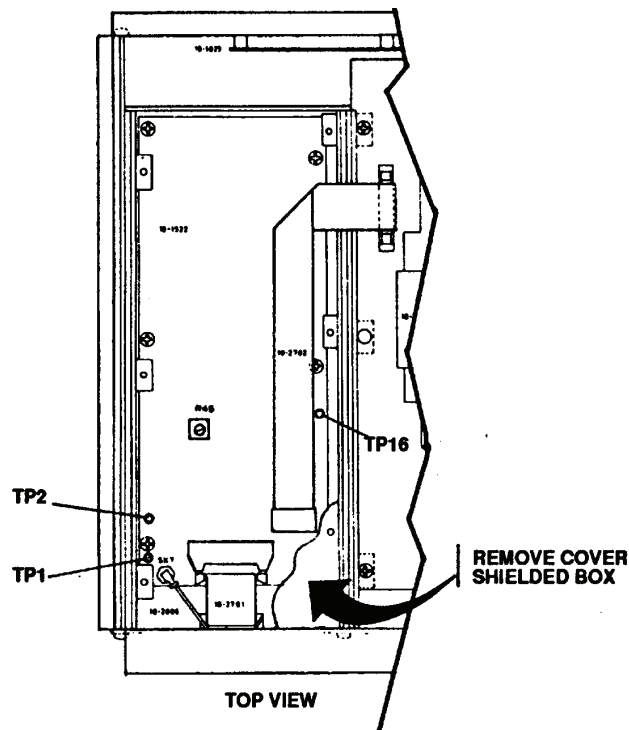
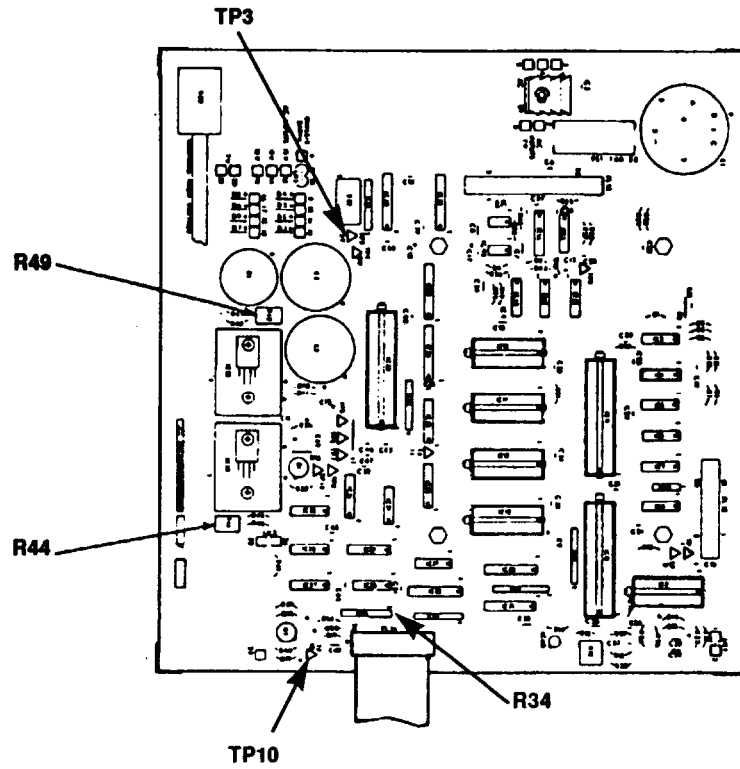

Figure 1. Top view of module assembly.
Figure 3. View of underside of module assembly.
²Figure 1.
- a Connect digital multimeter positive lead to TP16 and negative lead to TP1 (fig. 1). If digital multimeter does not indicate +15.0 (±0.5) V, adjust R44 (fig. 3) for a +15.0 V indication (R).
- b. Move positive lead to TP2 (fig. 1). If digital multimeter does not indicate -15.0 (±0.5) V, adjust R49 (fig. 3) for a -15.0 V indication (R).
- c. Move positive lead to TP3 (fig. 3). Digital multimeter will indicate + 5.0 (±0.25) V.
- d. Move positive lead to pin 1 of R34 (fig. 3). Digital multimeter will indicate +9.3 (±1.0) V.
- e. Move positive lead to TP10 (fig. 3). Digital multimeter will indicate +4.9 (±0.4) V.